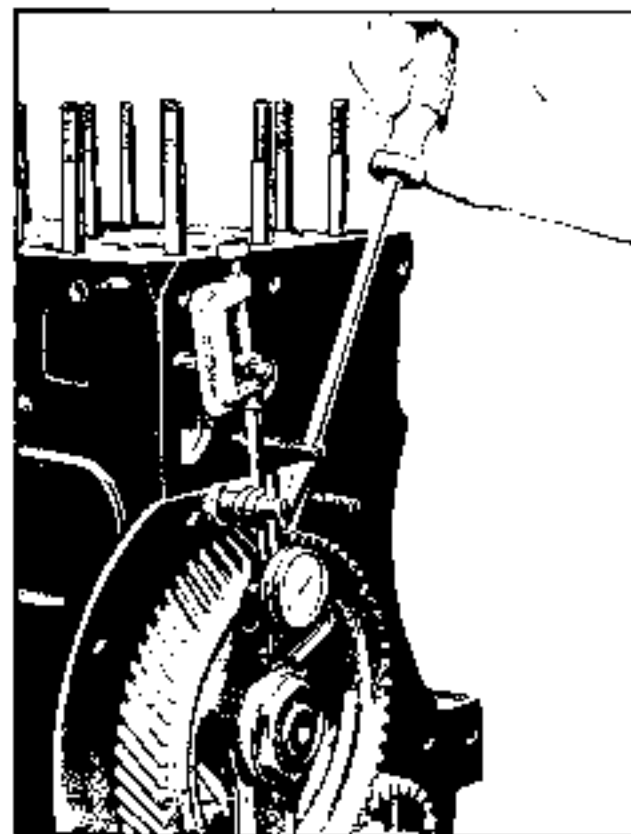

Fig. 1-109. Checking camshaft end play
e. Check camshaft end play as shown in Fig. 1-109. End play should be .005 to .009 inch.